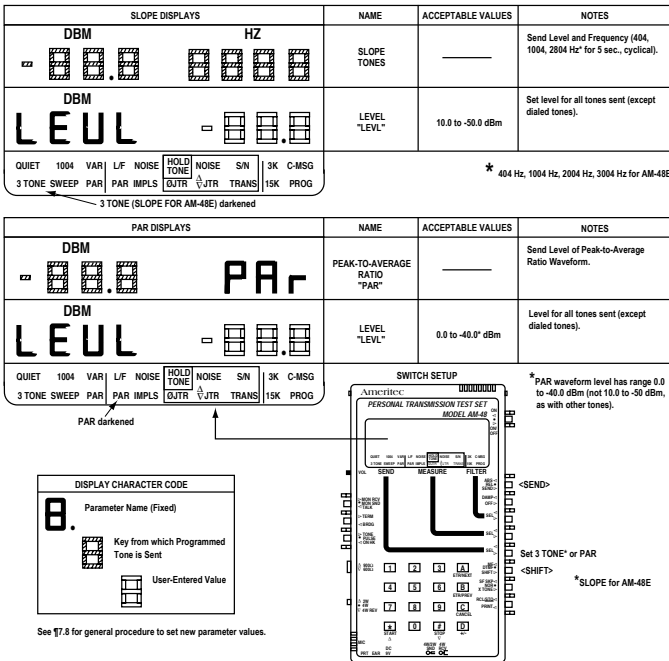

Figure 7-3. Parameter Settings from 3-TONE Slope and PAR SEND Displays
1. See Figure 7-3. Set switches per the SWITCH SETUP illustration, and set the SEND cursor per the upper menu illustration.
1. See Figure 7-3. Set switches per the SWITCH SETUP illustration, and set the SEND cursor per the lower menu illustration.